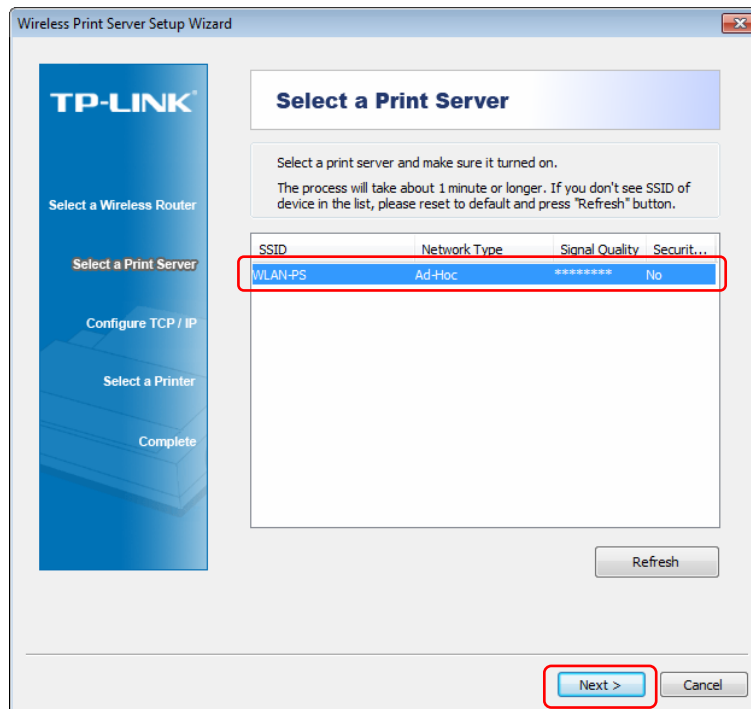

Figure 3-6
6. On the **Select a Print Server** screen as shown in Figure 3-6, select the print server and click **Next**.